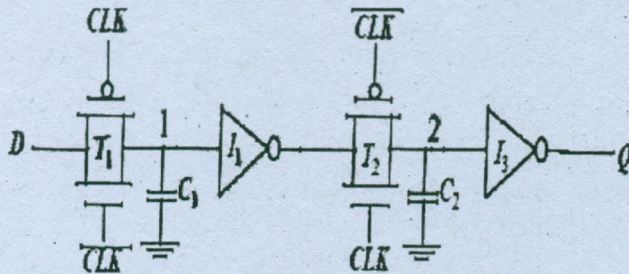

Fig. 13(b) (i)
- (b) (i) Consider the circuit shown in Fig. 13(b) (i).